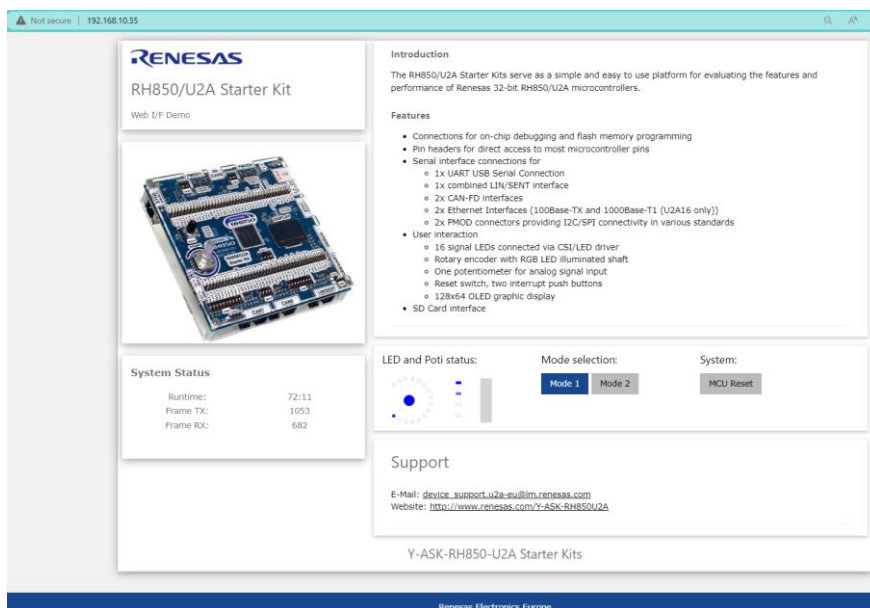

Figure 15 Interactive web-interface
- You should be able to see *Figure 15 Interactive web-interface*